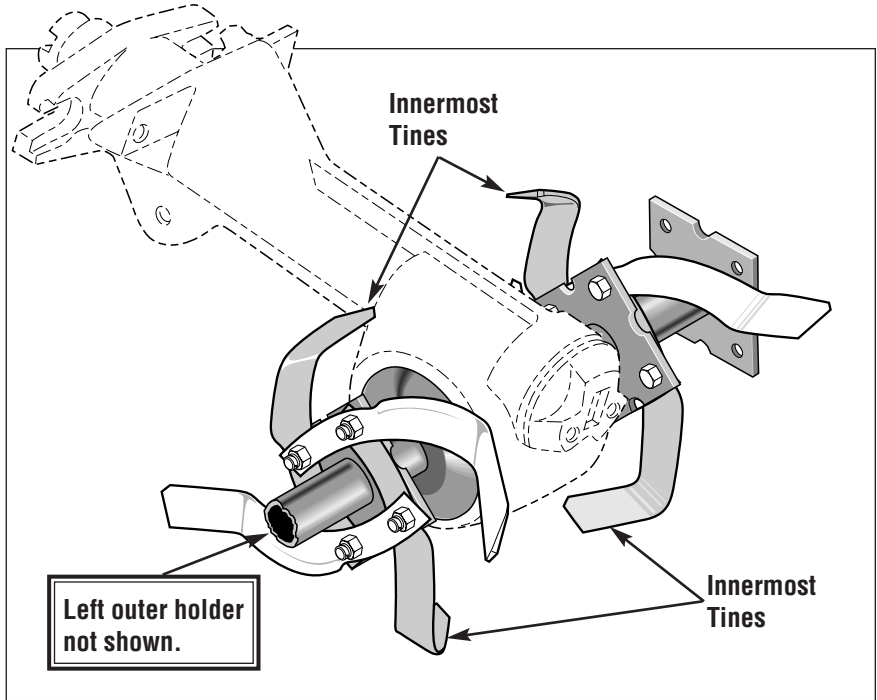

Figure 9: Innermost tines on inner holders.
A. Make sure that the tips of the four *innermost* tines (those nearest the transmission housing) are directly opposite each other, pointing toward each other and toward the transmission housing. See Figure 9.